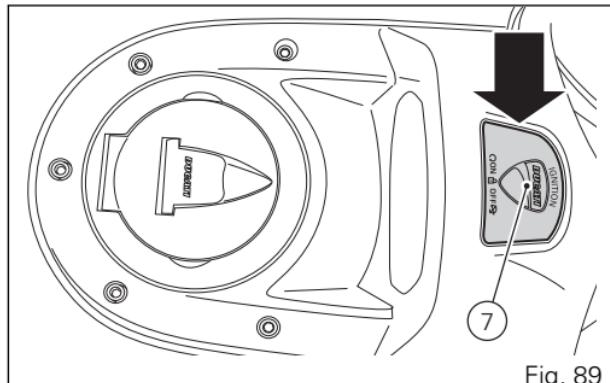
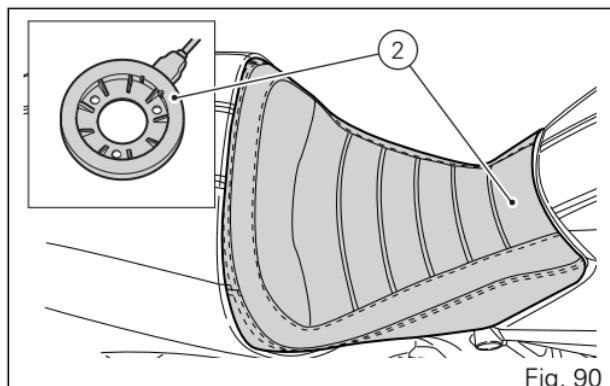

Fig. 89
Fig. 90
(Fig. 89) indicates the position of the Hands Free block (7) and (Fig. 90) indicates the position of the antenna (2).